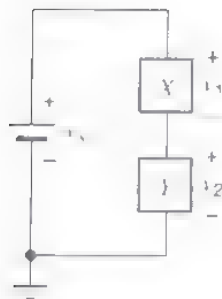

Fig. 1
1. Construct the series circuit shown in Fig. 1. For this experiment X and Y will be resistive elements provided to you (e.g., two different-valued linear resistors with values of several $K\Omega$; you can learn to read resistor values as explained in Appendix A). Set the